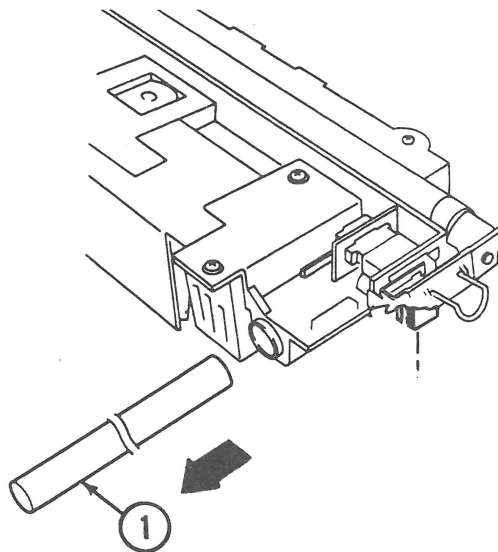

FIGURE 11
15. Remove the shaft from the optical assembly by pulling it out from right to left (Figure 11, #1).